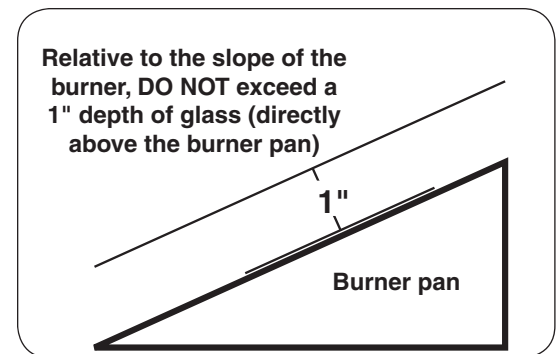

Fig. 20-2 Proper media placement
- Relative to the slope of the burner, DO NOT exceed a 1" depth of glass (directly above the burner pan) as shown in Fig. 20-2. Any additional glass/gems above the burner may cause unsafe operation.